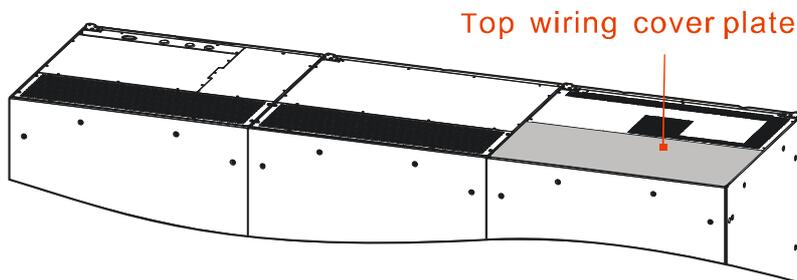

Figure3-45 Top wiring cover plate position of BM331000, BM331200
- Step 2 Unscrew the fasten bolts of top wiring cover plate (as shown in Figure3-45) by screwdriver and take them down.